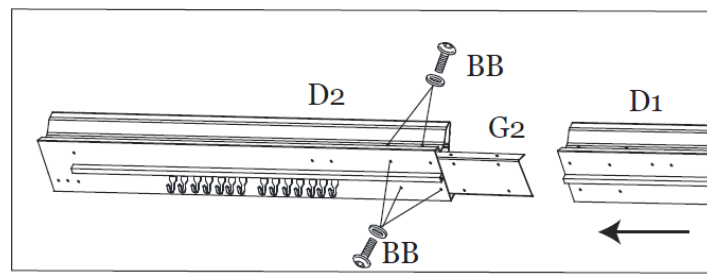

Figure 2-2
Step 2B: Attach Lintel Connector (G2) to Long Lintel (D2) using Bolts (BB). See Figure 2-2